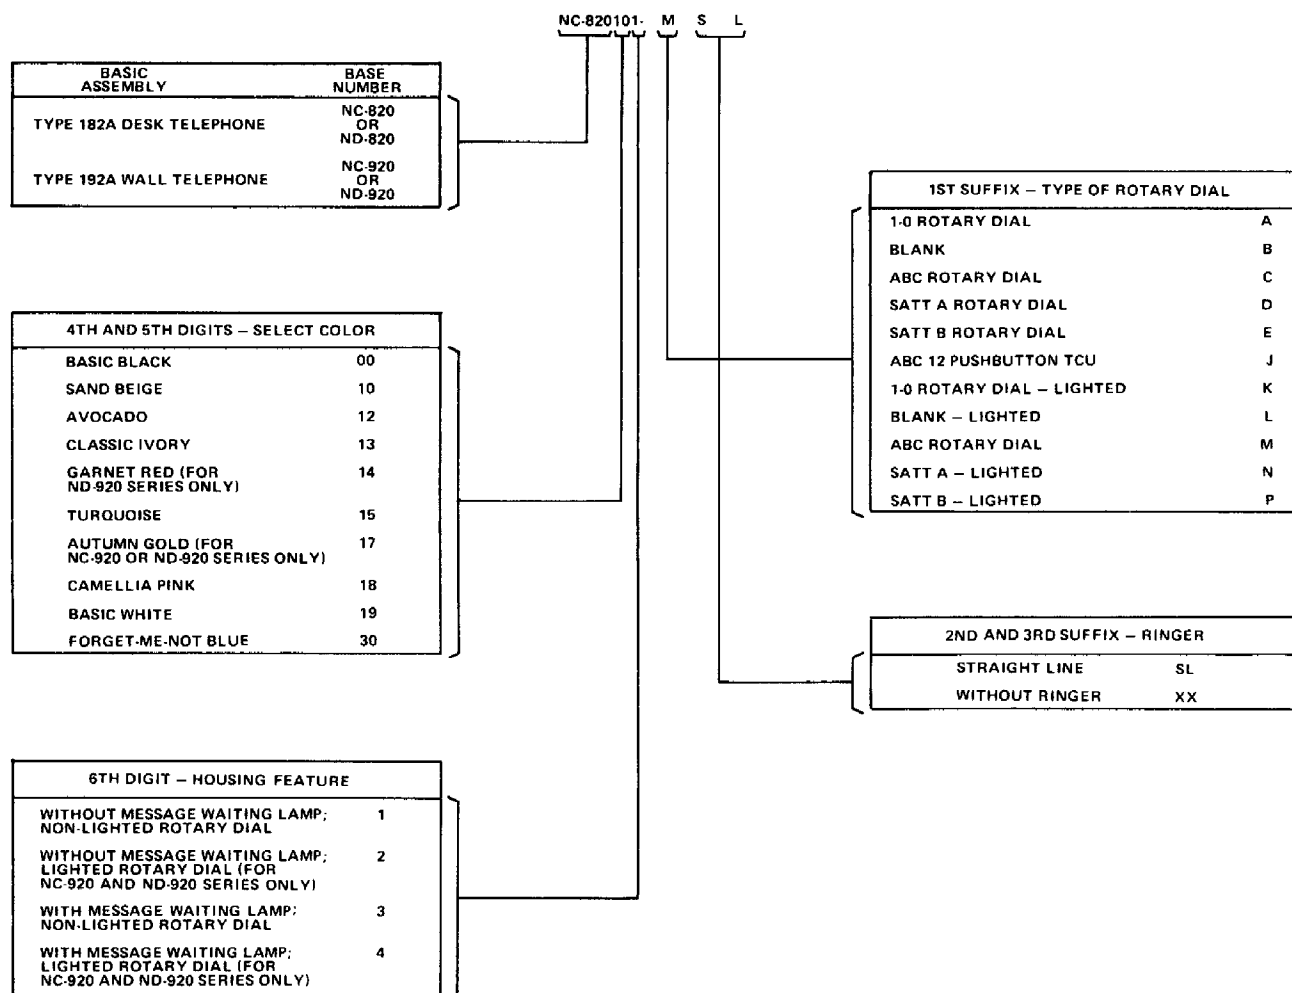

Figure 2. Type 182A and 192A Telephones Series NC and ND Telephone Code Information.
2.02 As an example (refer to Figure 2), a carton with the code number NC-820101-MSL is defined as follows:
- (c) The sixth digit (1) refers to a telephone without a message waiting lamp.
- (d) The first suffix (M) refers to the ABC lighted rotary dial.